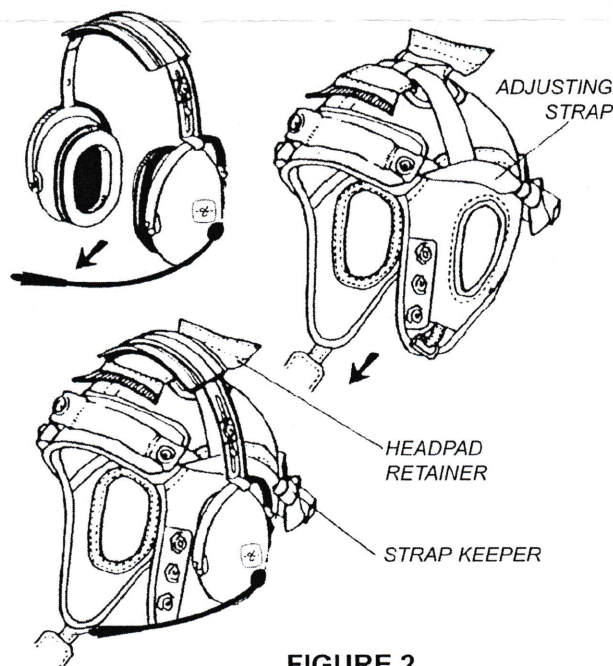

FIGURE 2
1. Align front side of helmet liner & headset to face the same direction. Insert helmet liner inside the headset. Be sure to place both adjusting straps inside the headset, above each dome and below the headpad (See Figure 2).